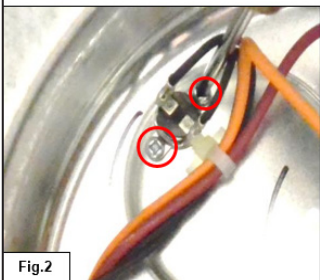

Fig.2
Detach the Outlet Thermal Limiter terminals (See Fig.1) and loosen the screws (2) (See Fig. 2) that is fixed with the dryer Rear Panel.